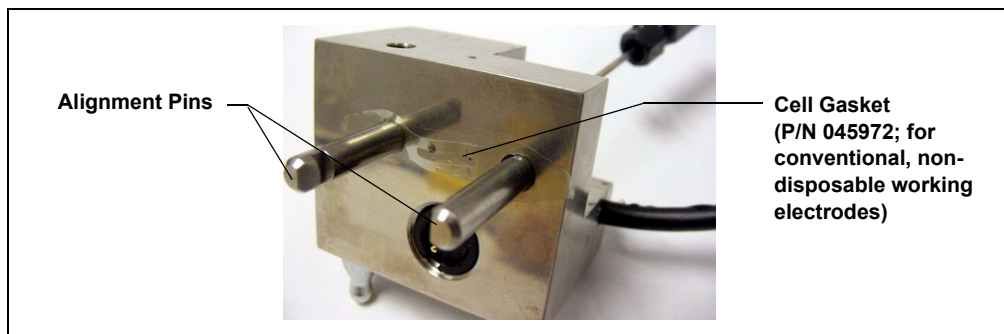

Figure 9-35. Amperometry Cell Gasket
7. Use tweezers to remove the old cell gasket (see Figure 9-35) from the cell body.